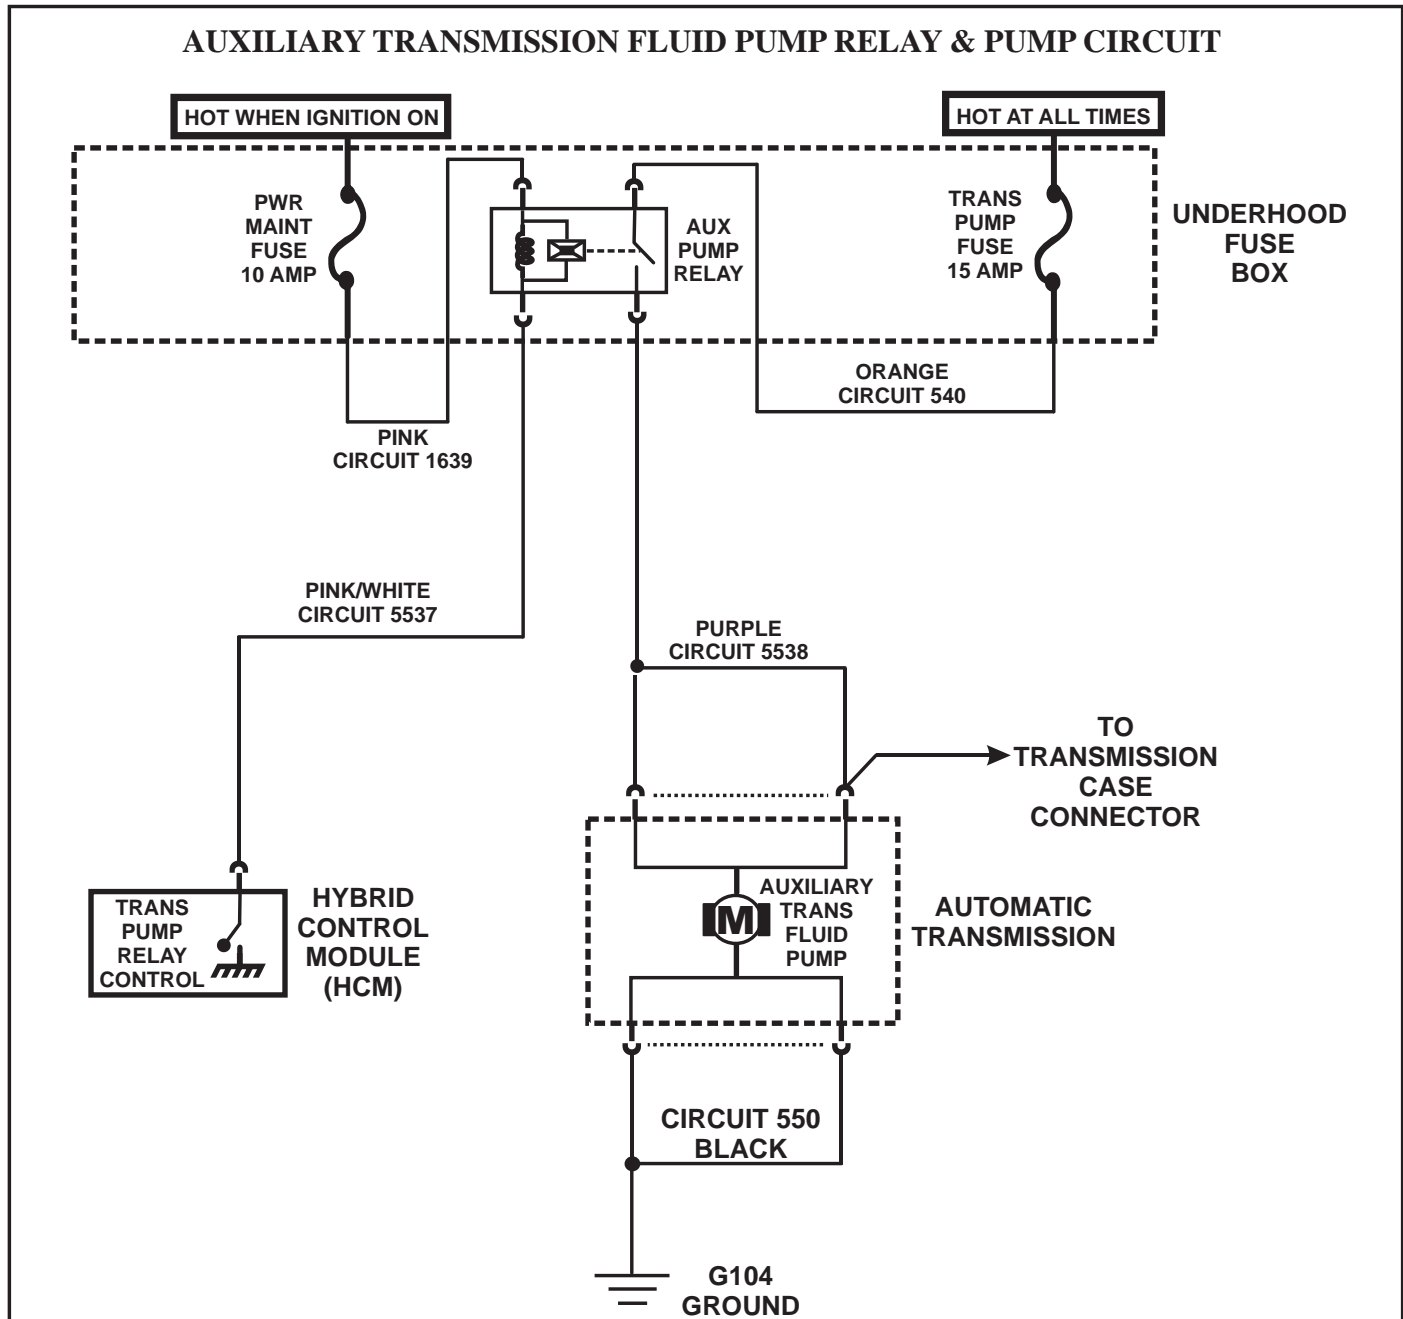
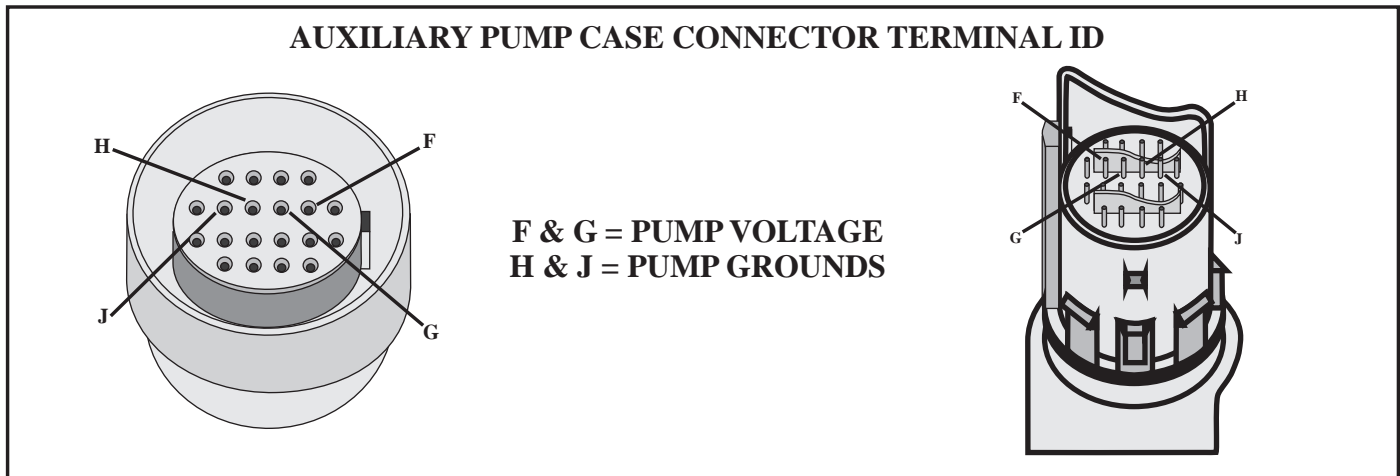

Figure 149
Figure 151
- Command the relay on with a capable scan tool, check the wire going to the Auxiliary Pump, for voltage, Refer to Figure 149 and Figure 151 for case connector identification.
- Make certain the “PWR MAINT” and “TRANS PUMP” fuses have voltage on both legs. They are located in the underhood fuse box, Refer to Figure 149 and Figure 151 for case connector terminal identification.
- Make certain the Pink wire at the relay is hot with the ignition ON and the Orange wire at the relay is hot with the ignition OFF, Refer to Figure 149 and Figure 151 for case connector identification.
- Check the Pink/White (Circuit 5537) wire at the relay to see that it is grounded. If it is grounded, the circuit will have less than 1 volt. If the circuit has battery voltage, make certain the wire and connections are good. If they are good, replace the Hybrid Control Module (HCM), Refer to Figure 149 and Figure 151 for case connector terminal identification.
- Check the G104 ground for 0.3 volts or less voltage drop, the ground point is at the top left bellhousing bolt, Refer to Figure 149 and Figure 151 for case connector terminal identification.